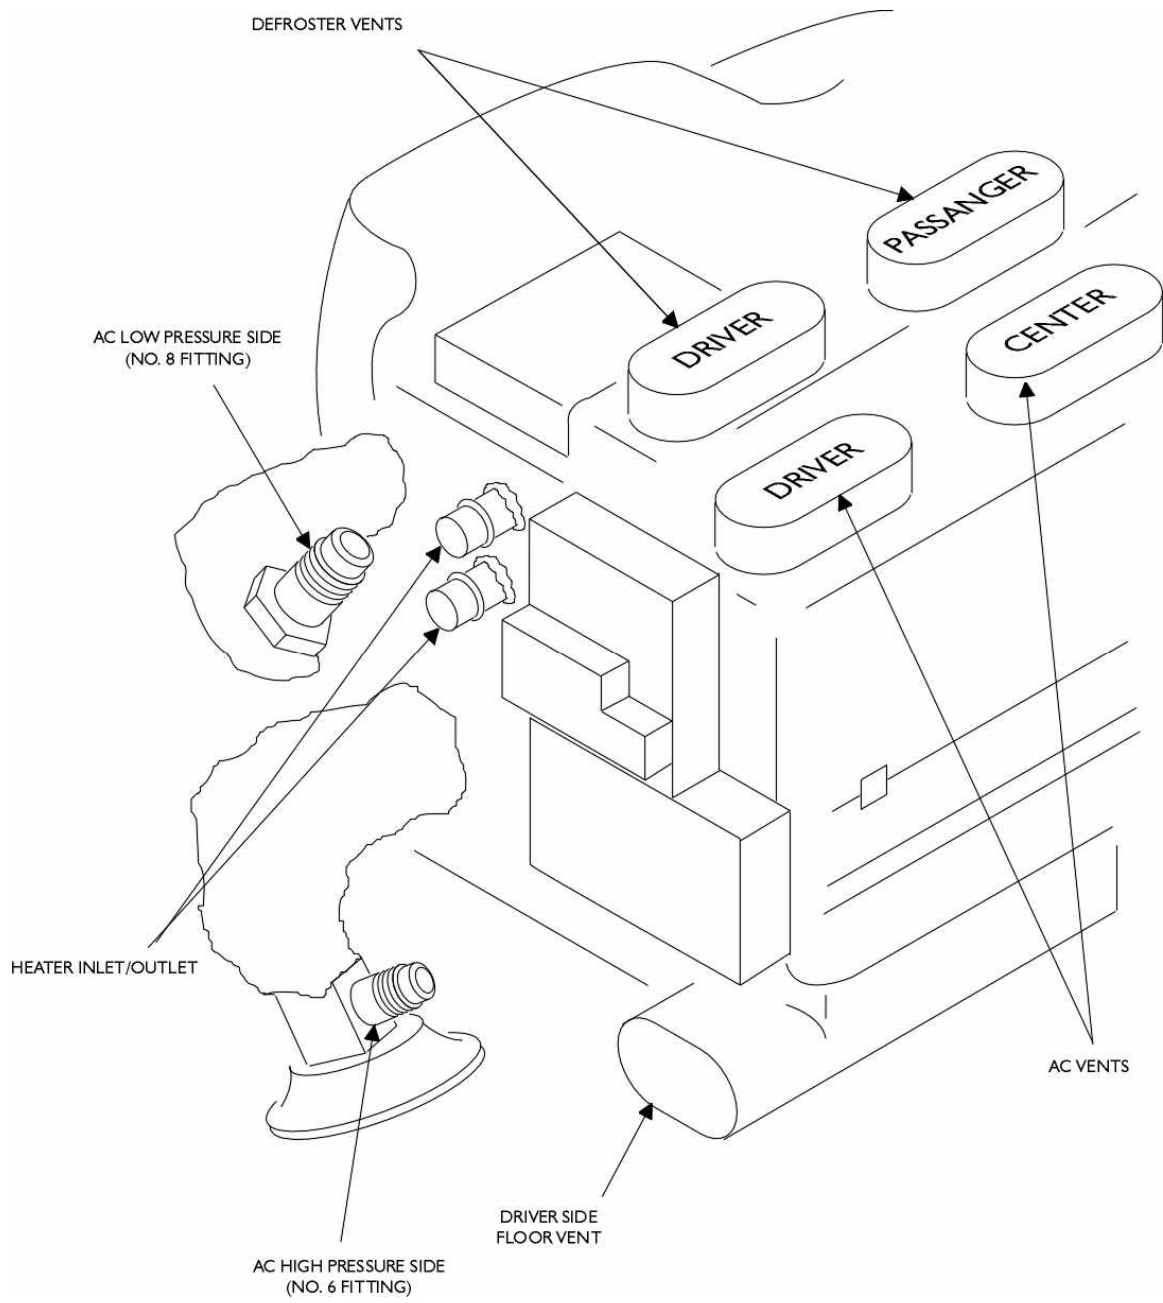
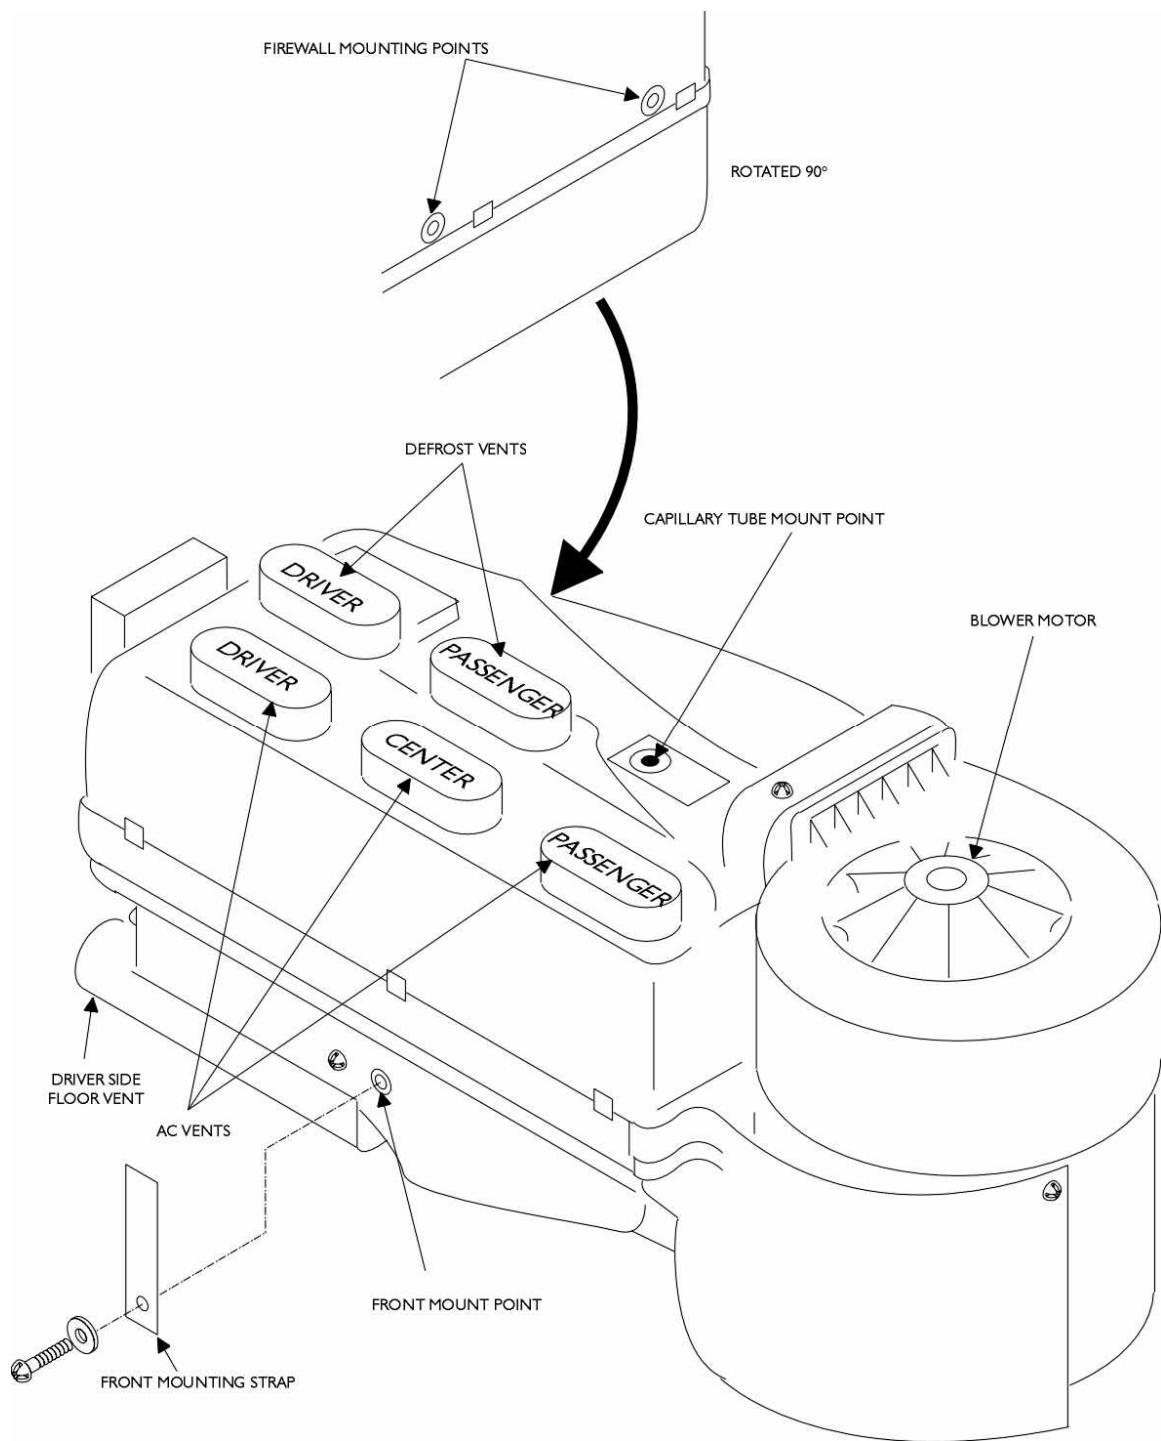

Figure 3
Figure 4
33. Connect the flex ducting to the two rear de-frost outlets on the ac unit and secure it with a supplied zip tie. Reference Figure 3 and Figure 4.
34. Connect the flex ducting to the three front ac outlets and secure it with a supplied zip tie. Reference Figure 3 and Figure 4.
35. Carefully insert the end of the capillary tube into the ac unit at the point noted by the "bull's eye" sticker approximately 4". See Figure 4.
41. Using the provided strap, secure the front of the ac unit to the dash board. See Figure 4.